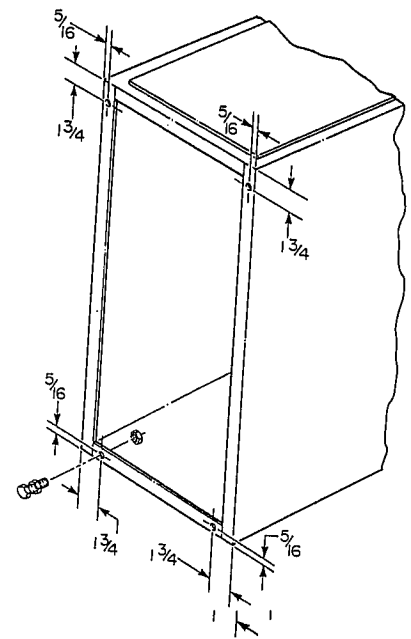

Figure 6—Leveling Leg Installation
When the furnace is used with side inlet(s), and leveling legs are required, refer to Figure 6, and install field-supplied corrosion-resistant 3/16-inch machine bolts and nuts.
1. Lay furnace on its back; locate and drill 5/16-inch diameter hole in each bottom corner of furnace as shown in Figure 6.